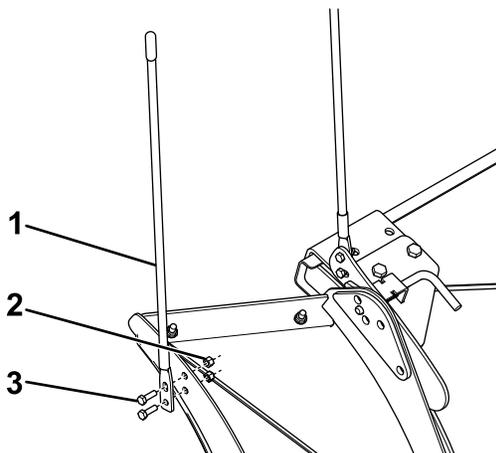

Figure 11
16. Attach a plow blade guide to the plow wing using 2 bolts (5/16 inch) and locknuts (Figure 11), and torque the bolts to 19 N·m (14 ft-lb).